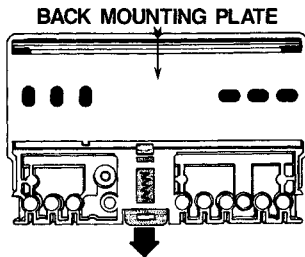

Figure 5. EC72D Back
1. Remove back mounting plate by releasing the bright red spring-loaded catch. See Figure 5 below.
1. Remove back mounting plate by releasing spring-loaded catch. See Figure 5 above. Store or discard mounting plate.